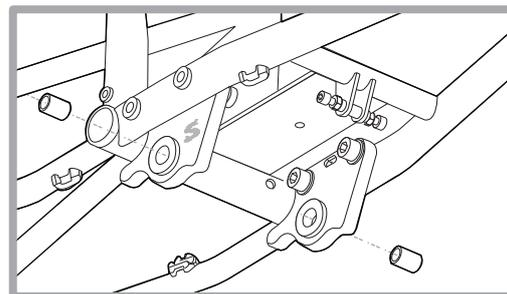

Figure 6
6. Slide pivot sleeve into bearing on each frame plate (Figure 6).